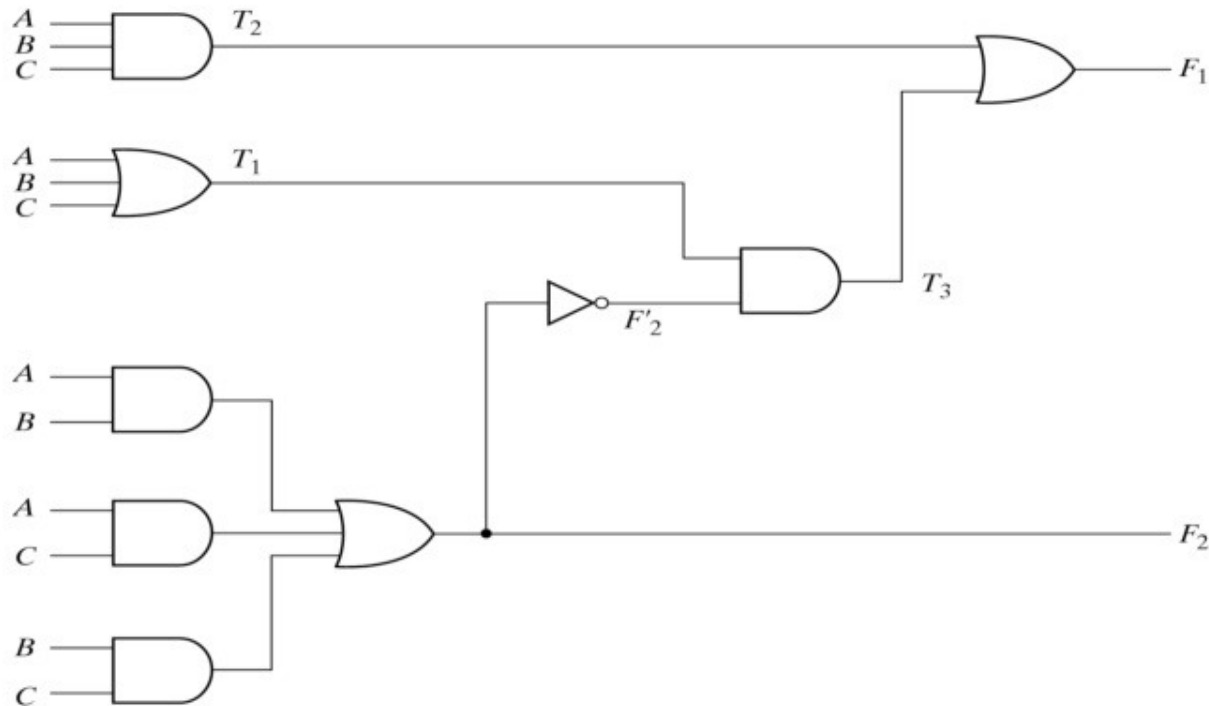

Fig. 4-2 Logic Diagram for Analysis Example
- We can derive the truth table in Table 4-1 by using the circuit of Fig.4-2.
Truth Table for the Logic Diagram of Fig. 4-2